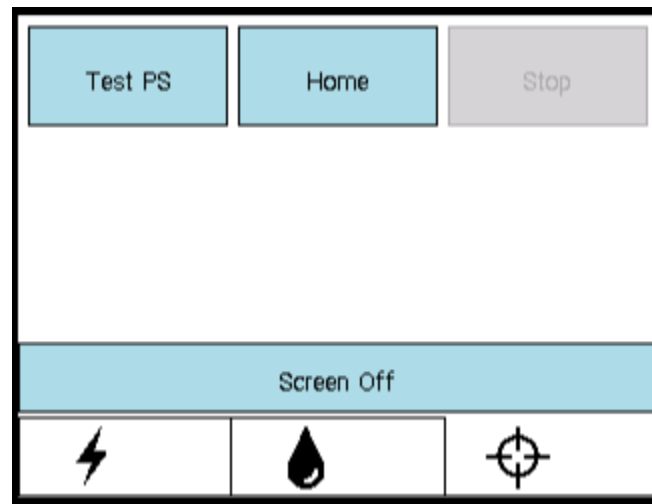
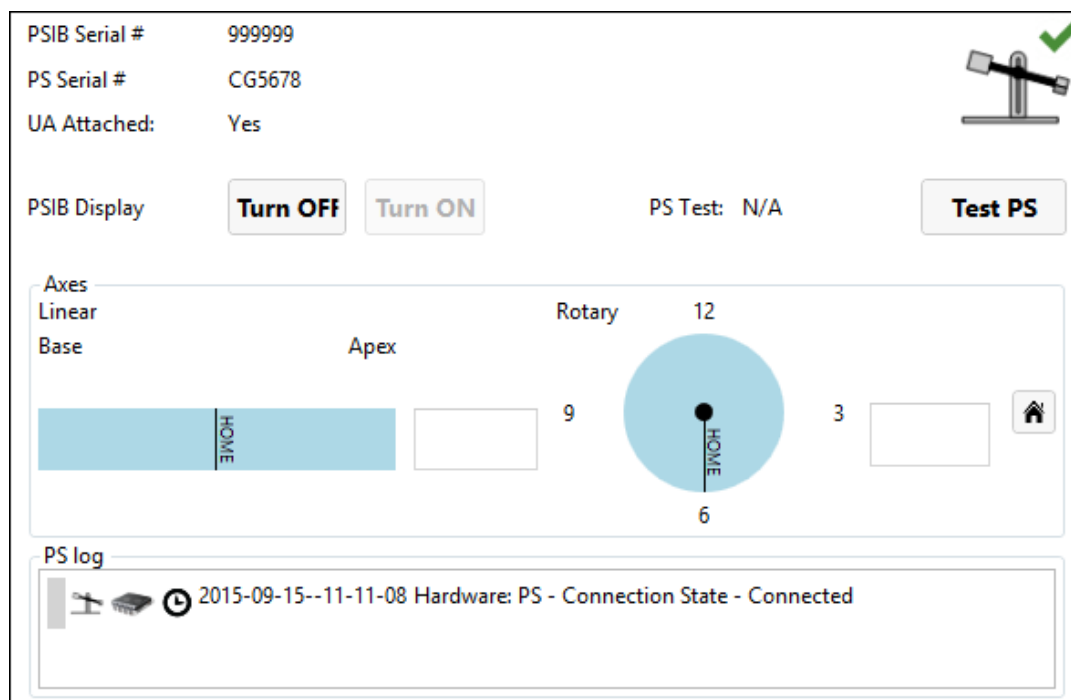

Figure 8: PSIB display - PS tab
Figure 9: PS information box in Setup workspace
- b. On the PSIB display, select the PS tab  and click **Test PS** (Figure 8). The system will translate the PS forward and backward to test the continuity and functionality of the translation axis as well as home the PS in the translation axis. The system will also rotate the rotational axis clockwise and counter-clockwise to test the continuity and functionality of the rotational axis. (This can also be done from the TDC *Setup* workspace in the PS information box in the bottom-right quadrant Figure 9.) You can move to the next step while the PS test is in progress.